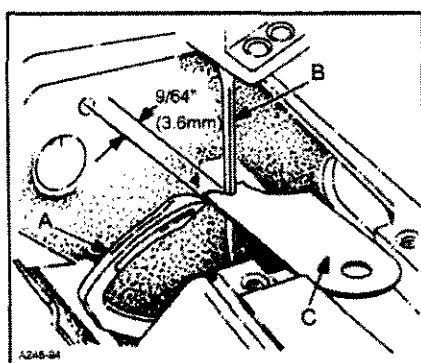
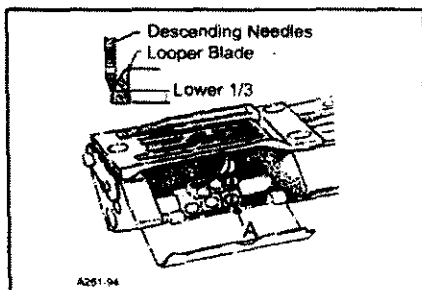

FIG.6
FIG.7
Insert a new set of needles, type and size specified. Always adjust the looper (A, Fig.6) for the left needle first. Set the looper so that the distance from the center of the needle(B) to the point of the looper (A) is 9/64" (3.6mm) when the looper is at its farthest position to the left. Looper gauge (C) No.21225-9/64 can be used advantageously in making this adjustment. If adjustment
is required, loosen screw (A, Fig. 7) in looper holder, permitting movement in either direction to attain the $9/64"$ (3.6mm) dimension as shown in Fig. 6. Retighten screw (A, Fig. 7). Repeat for other needles and loopers.
Rotate handwheel in operating direction to assure that the looper point passes to the rear of the needle to touch but not deflect. This adjustment can be made by loosening screw (A, Fig. 7) in looper holder. Looper holder can be moved front to back to attain looper to needle setting. Always check the $9/64"$ (3.6mm) looper gauge setting after setting the looper to the back of the needle, and conversely, always check the setting of the looper to the back of the needle after setting the $9/64"$ (3.6mm) looper gauge.